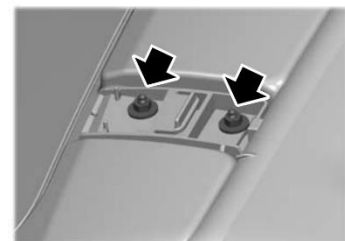

Figure 2
- 2) Using a 10mm socket, remove the two nuts and plastic cover mounts on both sides. (Fig. 2)
- 3) Install the limb riser top brackets. Reinstall the plastic cover mount and nuts on top (Fig.2). Torque to 7.7 lb.ft. (10.5 Nm). Repeat for the other side.